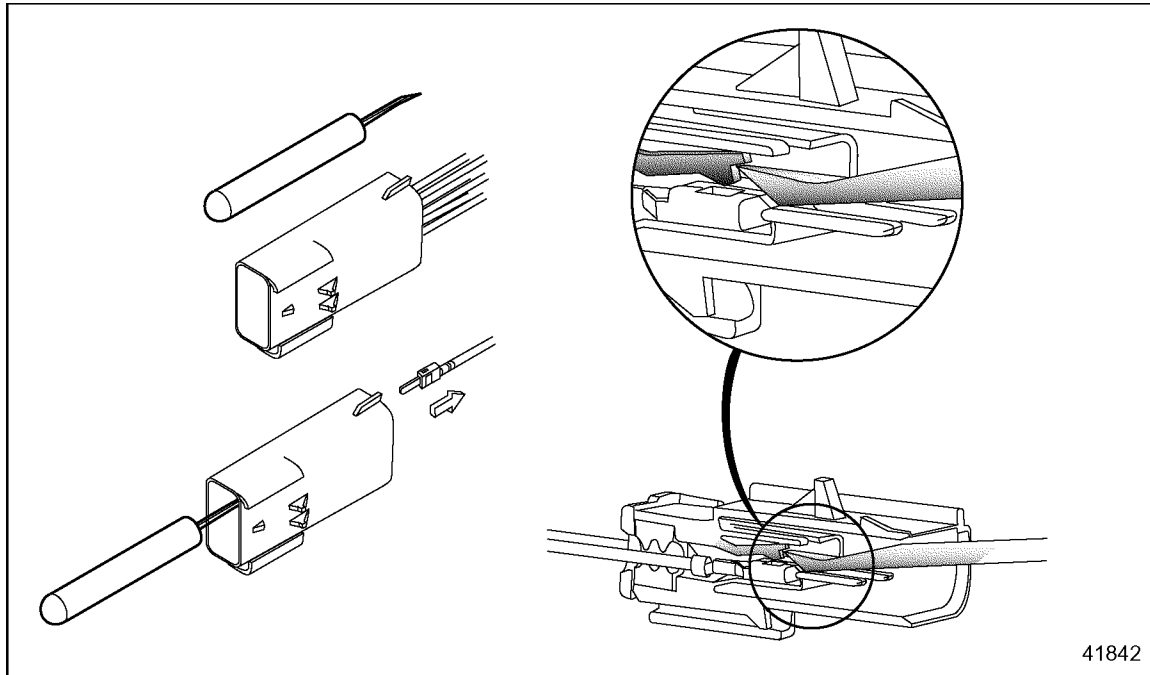

Figure 3-42 Pressing the Locking Tang
- Using a FCI APEX repair tool (P/N: 54900002) or a #2 jeweler's screwdriver, press back the terminal locking tang (see Figure 3-42).